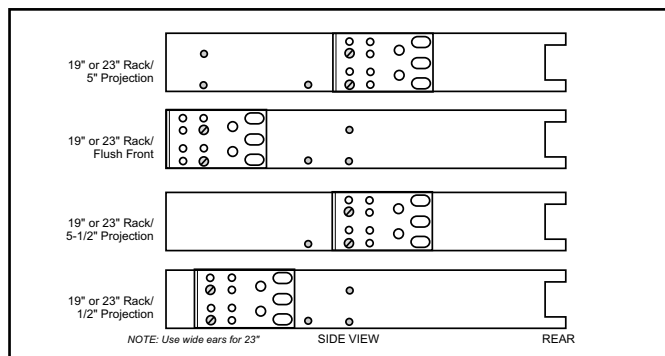

Fig. 15 - Position mounting ears for desired projection.
2. Install mounting ears for 23" or 19" rack. Position as required per Fig. 15.